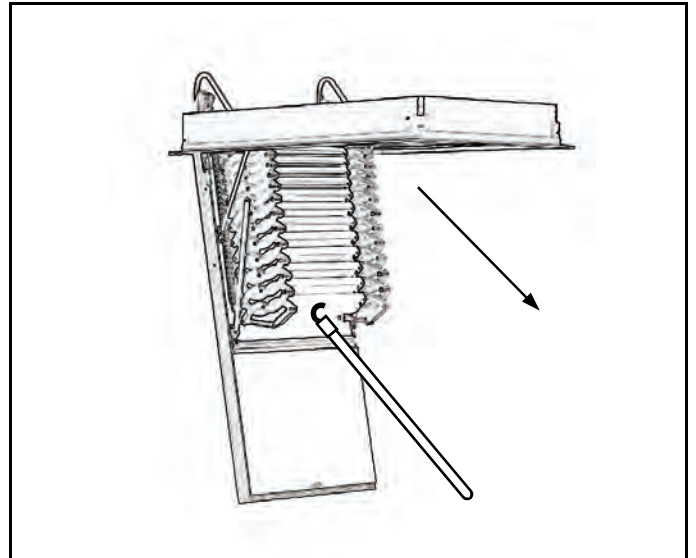
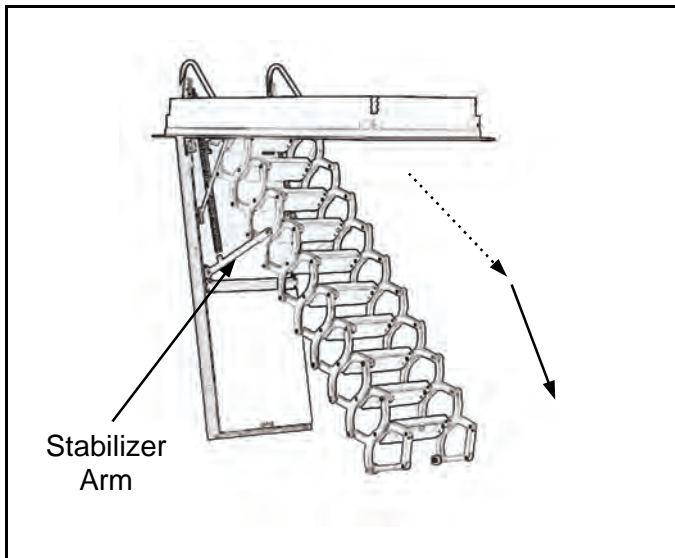

Figure 15
Figure 16
2. Grab bottom tread with hook and pull slightly away from door to start unfolding stair. Figures 15. ***(Never pull straight down as the stabilizer arm must swing steps out and away from door before it can be pulled straight down.)*** Figures 16 & 17.